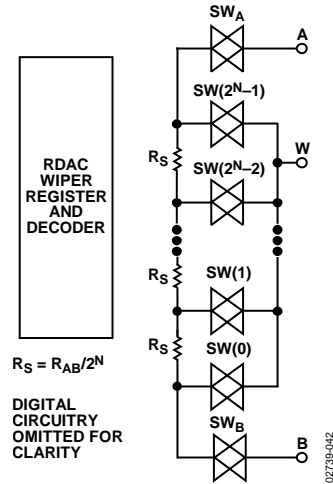

Figure 43. Equivalent RDAC Structure (Patent Pending)
The patent-pending RDAC contains multiple strings of equal resistor segments with an array of analog switches that act as the wiper connection. The number of positions is the resolution of the device. The AD5231 has 1024 connection points, allowing it to provide better than 0.1% settability resolution. Figure 43 shows an equivalent structure of the connections among the three terminals of the RDAC. The SWA and SWB are always on, while the switches SW(0) to SW(2N-1) are on one at a time, depending on the resistance position decoded from the data bits. Because the switch is not ideal, there is a 15 Ω wiper resistance, Rw. Wiper resistance is a function of supply voltage and temperature. The lower the supply voltage or the higher the temperature, the higher the resulting wiper resistance. Users should be aware of the wiper resistance dynamics if accurate prediction of the output resistance is needed.
The 10-bit data-word in the RDAC latch is decoded to select one of the 1024 possible settings. The following discussion describes the calculation of resistance RWB at different codes of a 10 kΩ part. For VDD = 5 V, the wiper's first connection starts at Terminal B for data 0x000. RWB(0) is 15 Ω because of the wiper resistance, and because it is independent of the nominal resistance. The second connection is the first tap point where RWB (1) becomes 9.7 Ω + 15 Ω = 24.7 Ω for data 0x001. The third connection is the next tap point representing RWB (2) = 19.4 Ω + 15 Ω = 34.4 Ω for data 0x002 and so on. Each LSB data value increase moves the wiper up the resistor ladder until the last tap point is reached at RWB (1023) = 10,005 Ω. See Figure 43 for a simplified diagram of the equivalent RDAC circuit. When RWB is used, Terminal A can be left floating or tied to the wiper.